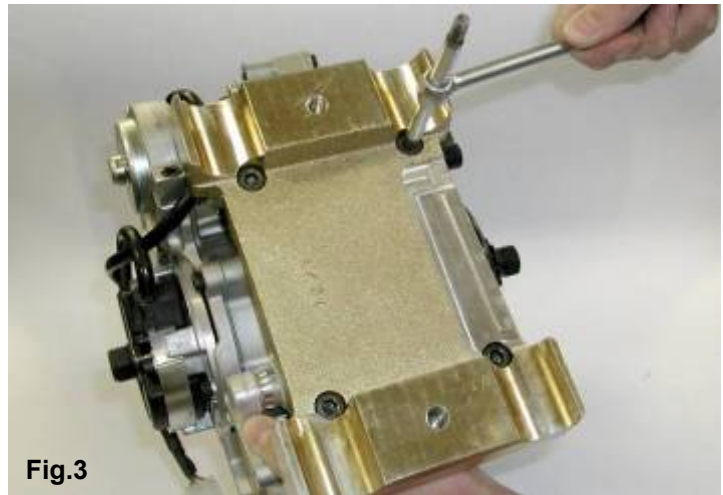

Fig.3
- COMPLETE INSERTION OF THE RADIATOR SUPPORT BRACKET IN THE RUBBER DAMPENERS (SEE FIG.3 AND 4).
**2.4.2** INSTALL THE MOTOR-MOUNT: MAKE SURE TO USE M8 ALLEN SCREWS WITH A LENGTH SUCH AS TO ENGAGE, IN THE CRANKCASE A THREADED LENGTH OF APPROX. 16÷19mm (THE SCREWS MUST PROTRUDE FROM THE PLATE FOR APPROX 16÷19mm - SEE FIG. 3 AND DRAWING PAGE 10)